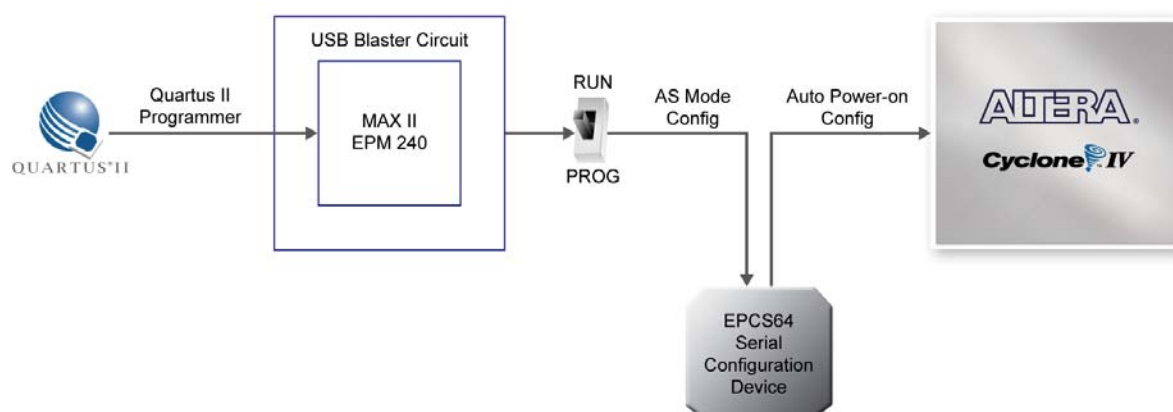

Figure 3-6 The AS configuration scheme
Figure 3-6 illustrates the AS configuration setup. To download a configuration bit stream into the EPCS64 serial configuration device, perform the following steps:
- Connect the supplied USB cable to the USB Blaster port on the DE2i-150 board (See **Figure 3-6**)